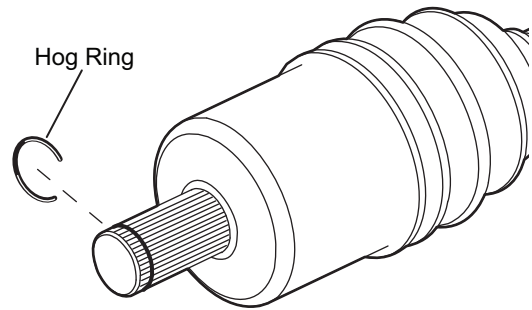

Fig. 7 Hog Ring
9. Make sure that the hog ring is in place on the CV shaft splines (Ref. Fig. 7).